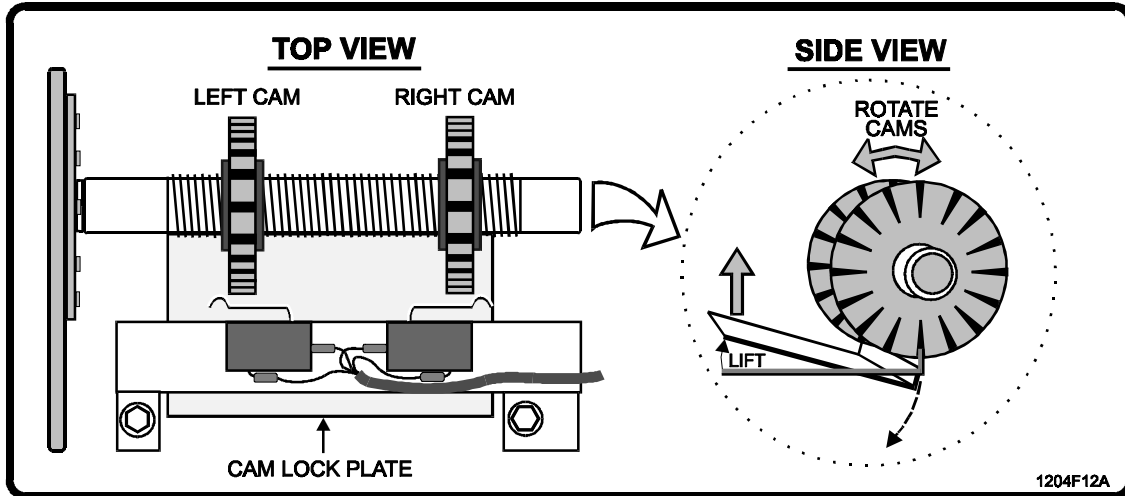

Figure 14. Limit Cam Setting.
- The left limit cam is close to the gearbox. The right limit cam is close to the end of the shaft (see Figure 14).